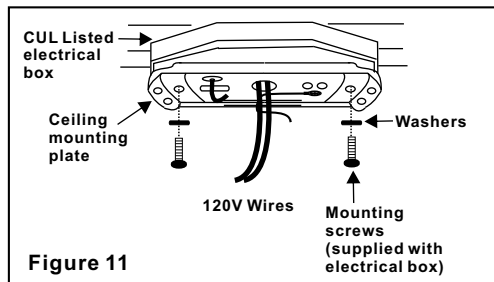

Figure 11
1. Pass the 120-volt supply wires through the center hole in the ceiling mounting plate as shown in Figure 11.
2. Install the ceiling mounting plate on the electrical box by mounting screws provided with the outlet box. When using close-to-ceiling mounting, it is important that the mounting plate be level. If necessary, use leveling washers (not supplied) between the mounting plate and electrical box. Note that the flat side of the mounting plate is toward the electrical box (Figure 11).